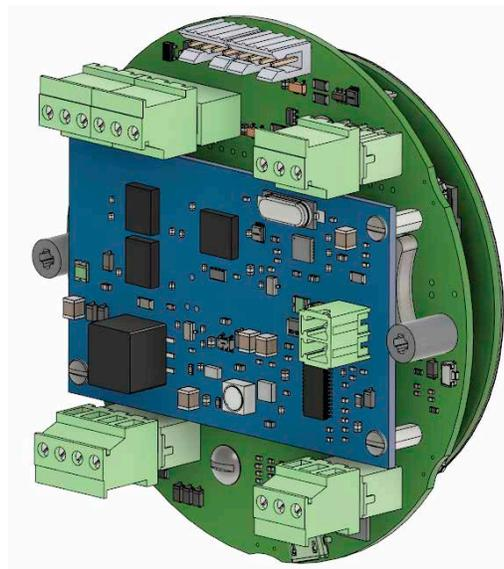

Figure A.13—Completed installation of expansion board
9. Install the three remaining screws through the corner holes of the expansion board and into the standoffs to secure the expansion board to the standoffs (Figure A.13).